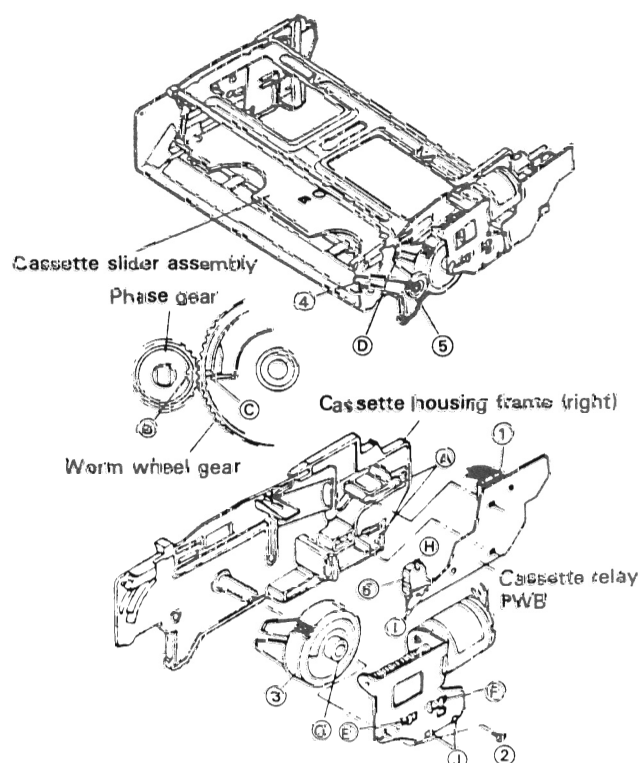

Figure 1-2.
• Disassembly (Fig. 1-2)
1. Remove the lead connector (1) from the cassette relay PWB.
2. Loosen the two tabs (A) at the cassette relay PWB and remove the cassette relay PWB from the frame.
3. Remove the screw (2) from the cassette motor bracket and detach the cassette motor assembly together with the cassette relay PWB from the cassette housing frame.
4. Withdraw the worm wheel assembly (3).
• Reassembly (Fig. 1-2)
2. Turn the phase gear (5) clockwise until it stops.
3. After setting up the worm wheel assembly, fit the alignment mark (C) of the worm wheel assembly to the alignment mark (B) of the phase gear. Then insert them into the frame shaft: this time, check that the tab (D) of the cassette slider assembly is engaged with the drive arm groove. The worm wheel is likely to fall off the frame shaft in this step: be sure to hold the worm wheel by hand.
4. Align the tab (E) of the timing lever with the worm wheel groove (G) and secure the worm wheel assembly with the screw (2).
5. Align the tab (F) of the timing lever with the groove (H) of the cassette mode switch (6), and secure the cassette relay PWB with the frame's tab (A): this time, check that the two tabs (1) of the cassette mode switch are surely engaged with the cassette motor bracket groove (J).